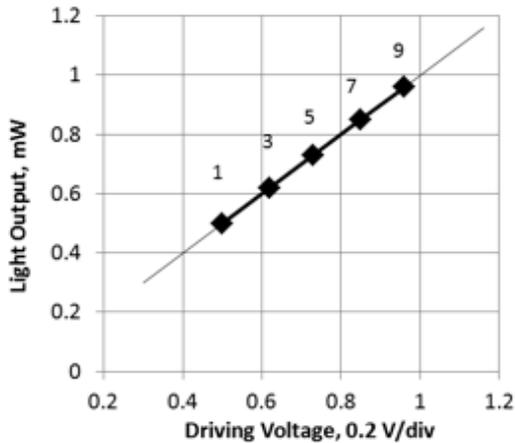
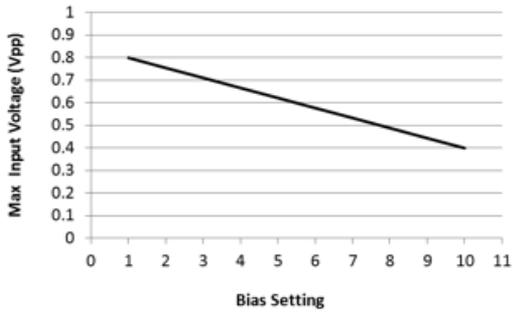

Figure 3. Typical light output versus driving voltage showing bias points.
Figure 4. Maximum allowed peak-peak input voltage versus setting on the Bias Control Knob.
1. Connect the RF Input connector on the back of the unit to the output of your driving instrument. Be sure the source voltage is less than that specified by Figure 4 to avoid damage and obtain good performance.
Figure 3 can be used to determine approximate operating levels for the VCSEL. For desired optical power levels, the bias point and input signal voltage swing can be determined – the bias point is set on the front panel of the Model 1784, and the input voltage swing should be set to give the desired optical power swing. Note that the graph shows typical values, and that precise values of optical output should be determined by measurement. To avoid damaging the VCSEL observe the input voltage limits detailed in Figure 4.